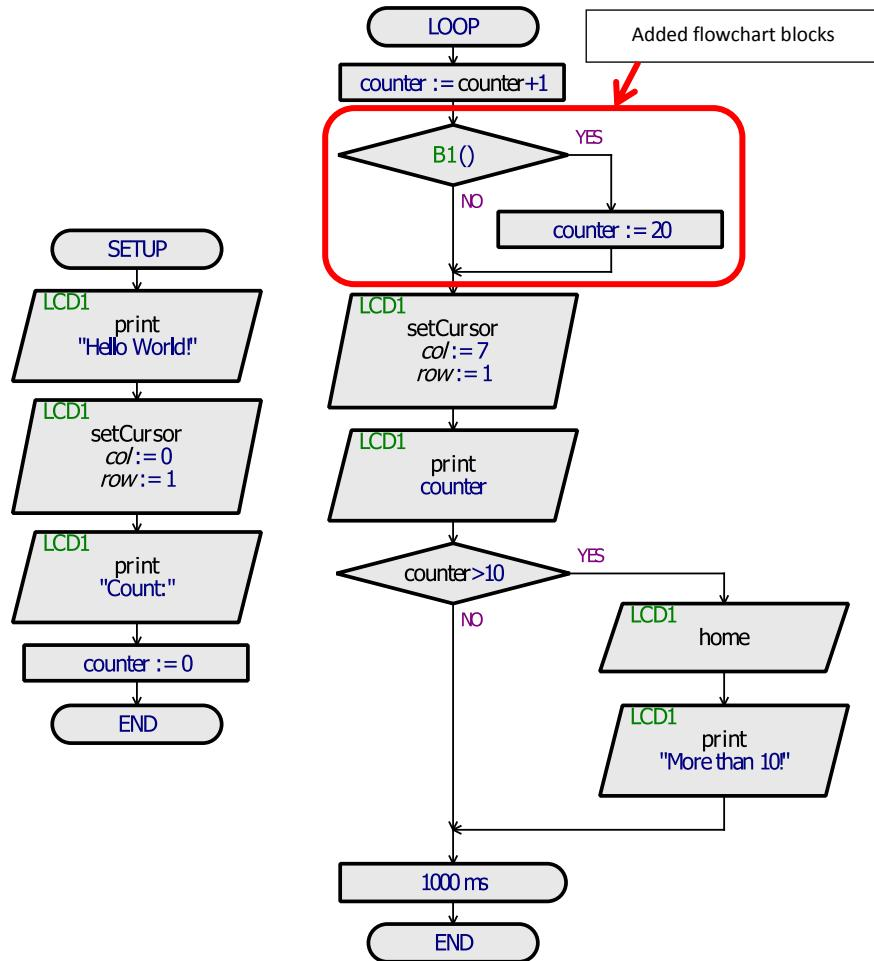

Figure 4-21: Final "variable" project flowchart
In order to update your flowchart so that it matches Figure 4-21, please complete the following steps:
2. Drag the button (“B1”) onto the flowchart, so that it inserts a decision block (as depicted in Figure 4-21). Please see section 3.5 if you need a reminder on how to drag a button onto the flowchart.
3. Drag an assignment block onto the flowchart, placing and connecting it as depicted in Figure 4-21.
5. Swap the “Yes” and “No” on the decision block, so that it matches Figure 4-21.
however they are beyond the scope of this chapter. If the simulation does not behave as expected, then please carefully compare your flowchart to Figure 4-21 to make sure that they are exactly the same, and ensure that you are pressing the Grove button and not the Reset button (which is discussed in the next section).